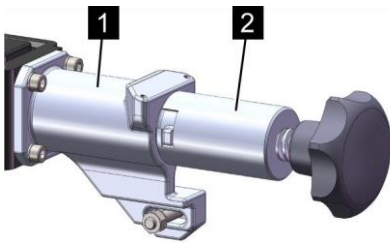

Fig. 75: Clamping device
17. ➤ Remove clamping device (Fig. 75/2) from the holder (Fig. 75/1).